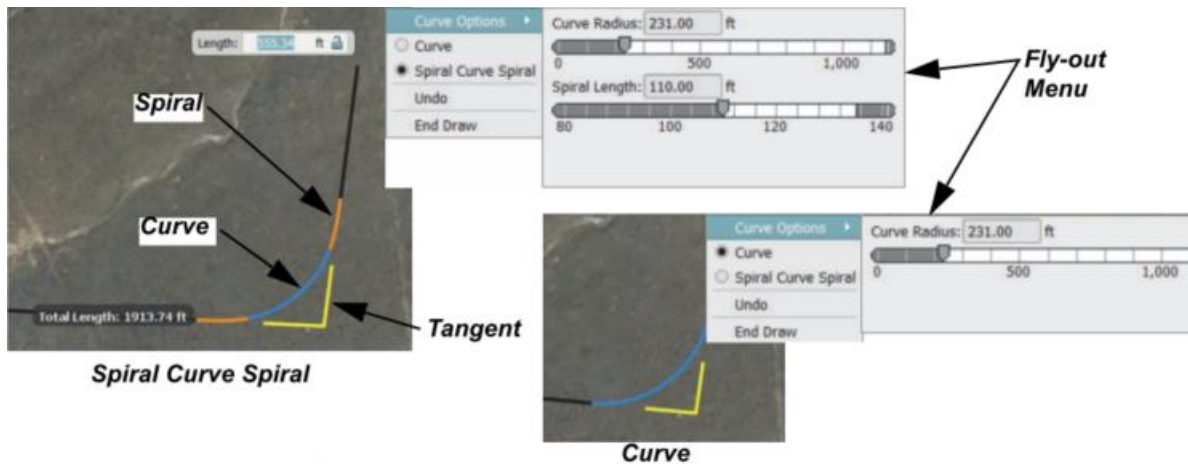

FIGURE 2
The design speed property of a roadway sets the minimum and maximum allowed curve radius and spiral lengths for a given point of intersection (PI) along a roadway. When you use the Highway Roads command, the default curve type is set to Spiral Curve Spiral. For all other design road commands (i.e., arterial, collector, or local), the default curve type is set to Curve. To change which curve type to use at a PI, right-click on the curve to display a fly-out menu, as shown in Figure 2. As you set the PI's, tangent lines (which project all of the way to the actual point of intersection) display in yellow, curves display in blue, and spirals display in orange, as shown in Figure 2.